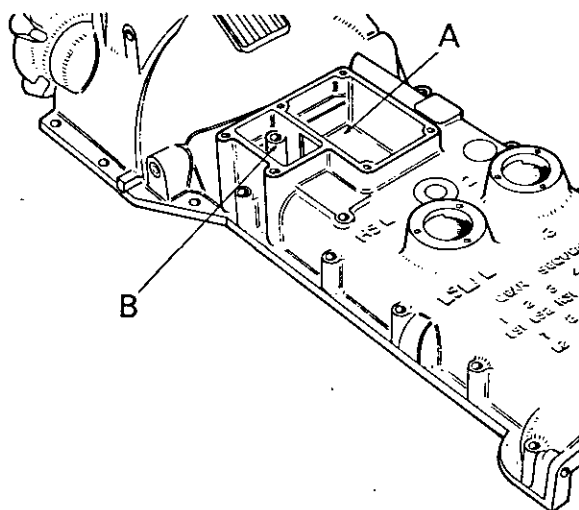

Figure 1.
3. Remove gearbox cover — 17 bolts into main frame, five bolts into rear axle. Note that one of the main frame bolts is inside the steering box oil bath. See Figure 1.